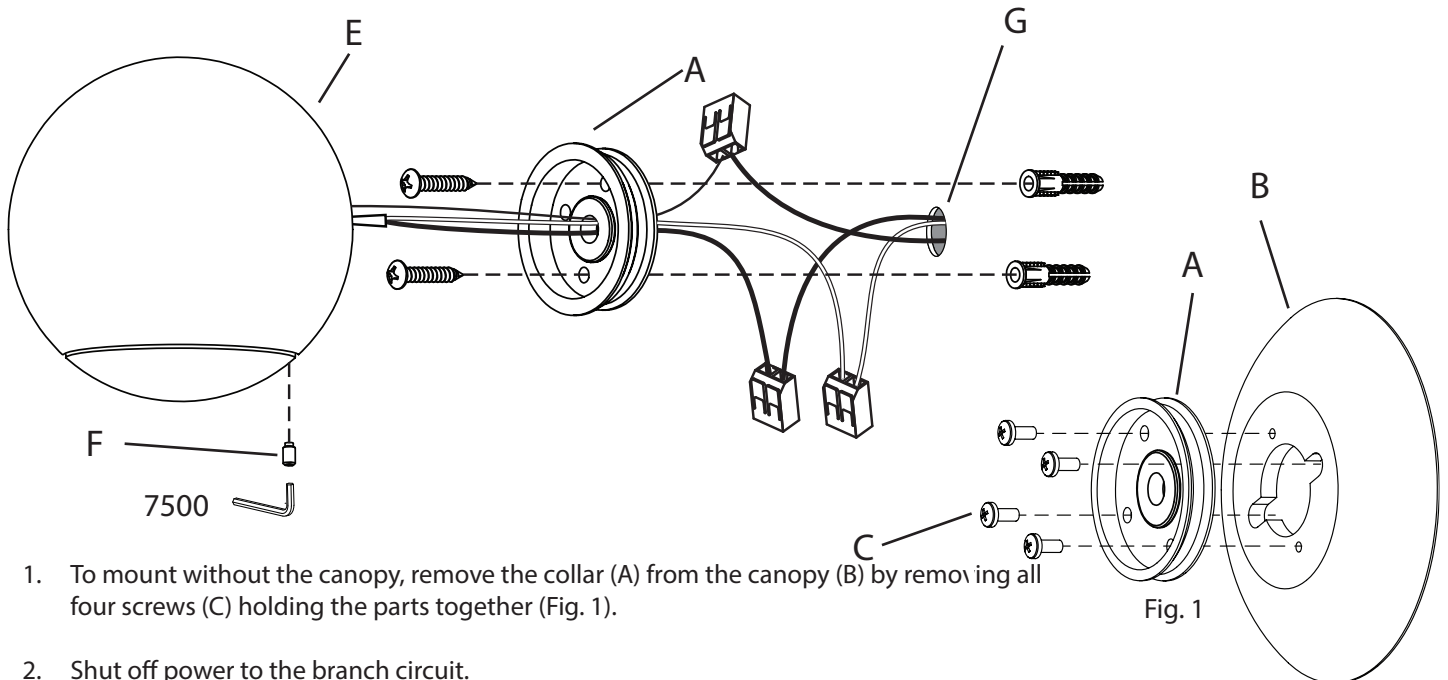

Fig. 1
1. To mount without the canopy, remove the collar (A) from the canopy (B) by removing all four screws (C) holding the parts together (Fig. 1).